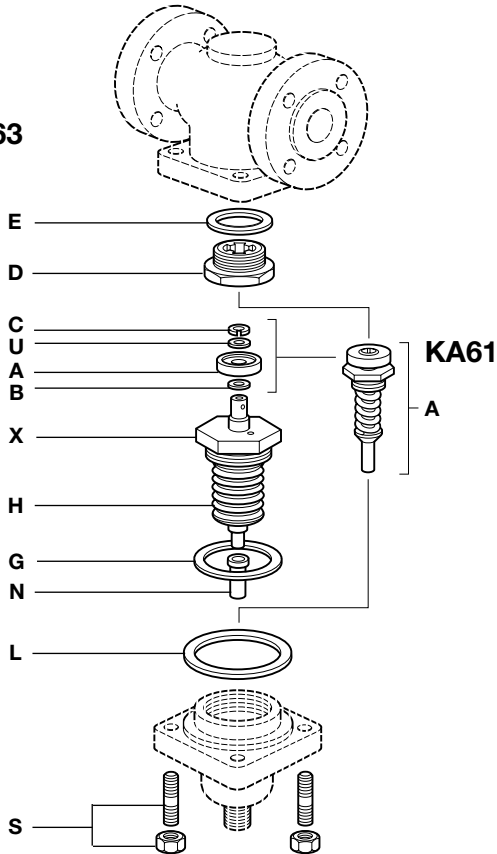

Fig. 9
4.5 KA61, KA63 and KC63 valves (refer to Figure 9)